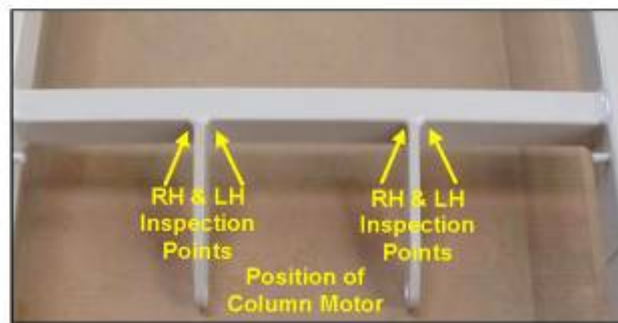

Fig 01
2. Inspect the weld joints as detailed in fig 01 below. Ensure the paint surrounding the welds is not flaking, showing signs of rust and the weld joints are intact. Inspect both the RH and LH weld fillets, above and below the Mattress Platform.